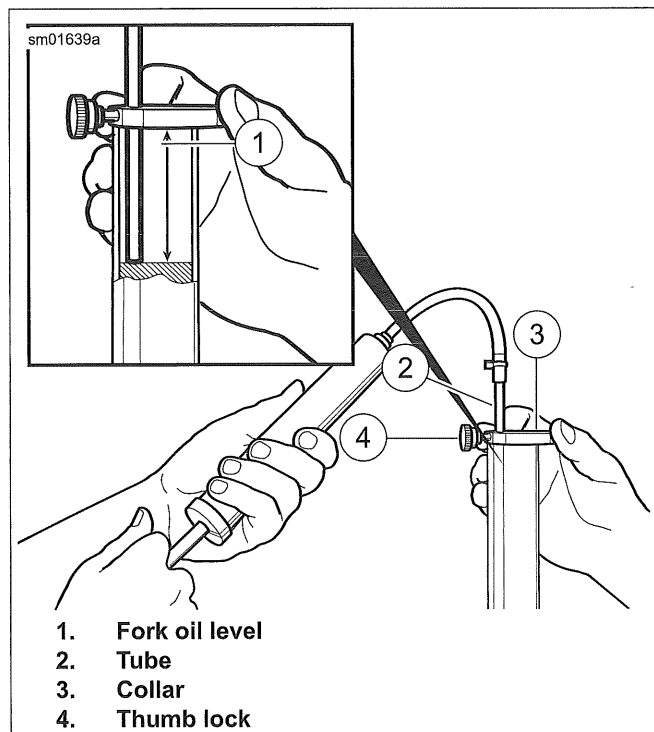

Figure 3-76. Oil Level Gauge
- b. See Figure 3-76. Fill with TYPE "E" HYDRAULIC FORK OIL until oil level matches specification from top of fork tube with spring removed. Adjust oil level to specification using fork oil level gauge. Refer to Table 3-12